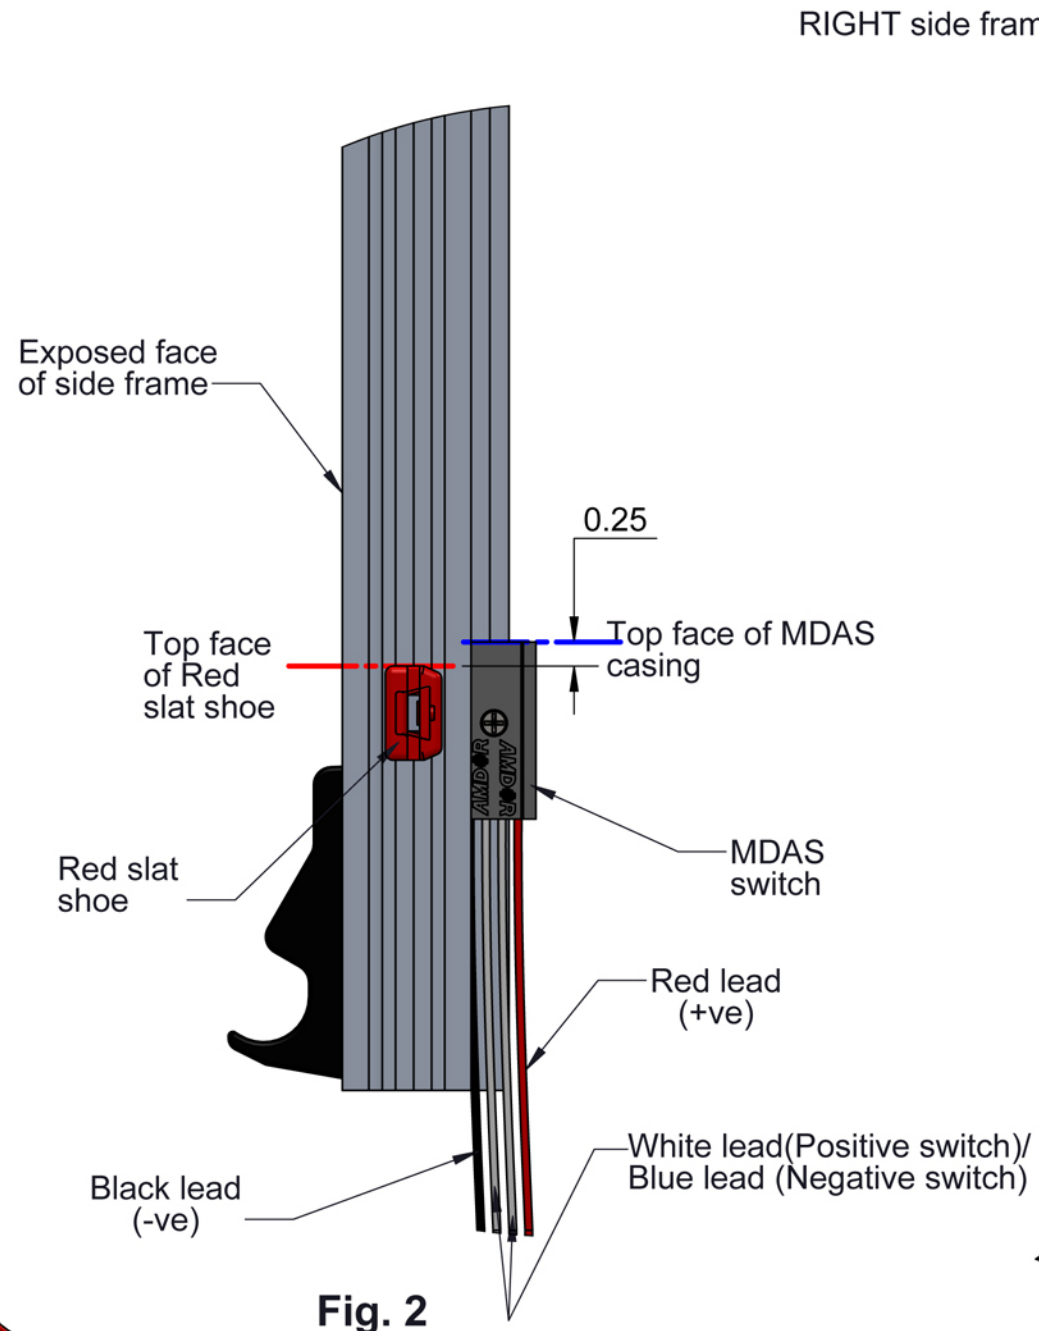

Fig. 2
- Position switch such that top face of MDAS casing is 1/4" higher than top face of red slat shoe as shown in Fig. 2 when door is fully closed.